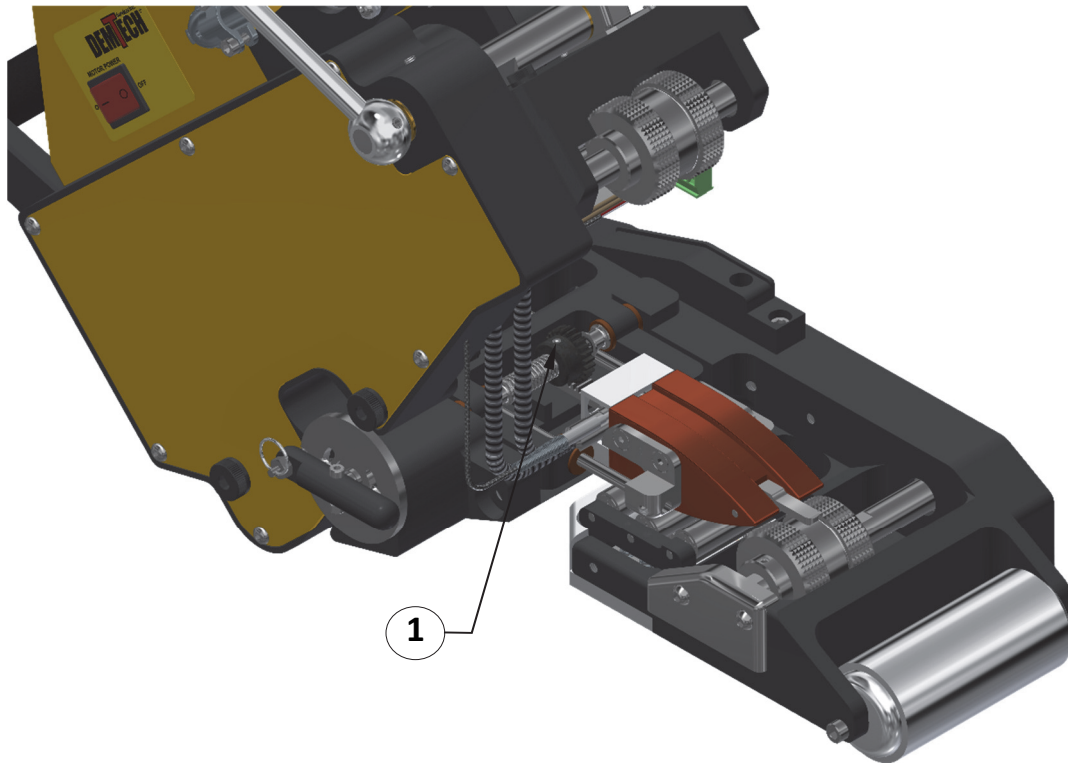

**Figure 4**
- d. Move the Wedge to the Engaged/Welding position by rotating the Wedge Engagement Handle (1) (see Figure 4) counter-clockwise. Using a 5mm hex wrench adjust the Wedge with the Wedge Height Adjustment Screw (2) (see Figure 4) as needed, up or down, to center the Wedge between the Nip Rollers. Turning the Adjustment Screw clockwise raises the Wedge, counter-clockwise lowers it.